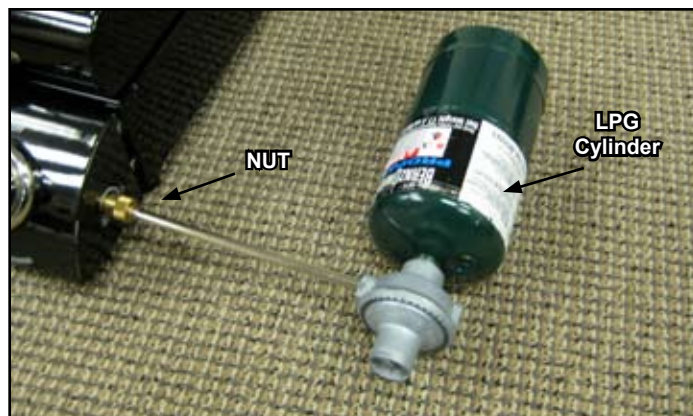

Figure 5
3. The cylinder supply system must be arranged for vapor withdrawal. See Figure 5 on page 9.
4. When connecting the LPG cylinder to the manifold connection, hand tighten the nut of the connection tube clockwise to a full stop (see Figure 5). DO NOT use a wrench to tighten because it could damage the Quick Coupling Nut and result in a hazardous condition.